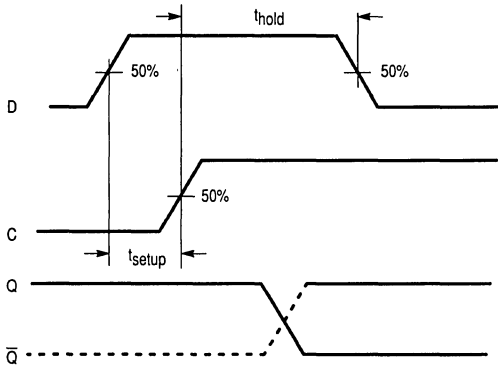

Figure 12. Setup and Hold Waveforms for MECL Logic Devices
Setup and hold times are two ac parameters which can easily be confused unless clearly defined. For MECL logic devices, t_{setup} is the minimum time (50% – 50%) before the positive transition of the clock pulse (C) that information must be present at the Data input (D) to insure proper operation of the device. The t_{hold} is defined similarly as the minimum time after the positive transition of the clock pulse (C) that the information must remain unchanged at the Data input (D) to ensure proper operation. Setup and hold waveforms for logic devices are shown in Figure 12.